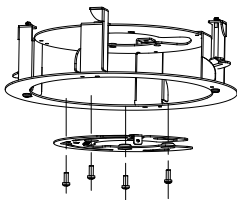

Figure 2-45 Fix the Base Plate to In-ceiling Bracket
3. Align the cable holes of the base plate to the cable holes of the in-ceiling bracket and then fix the base plate onto the bracket with the four screws in the package (supplied), as shown Figure 2-45.